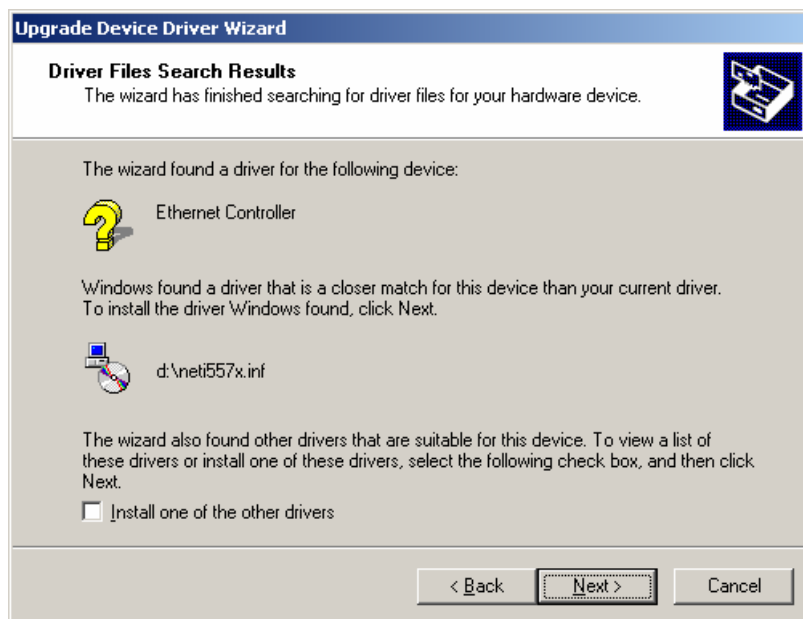

Figure 2-31 [Driver Files Search Results] dialog box
- 8) The system searches the CD for the driver of the network adapter. The [Driver Files Search Results] dialog box is displayed with the path to the driver, for example, d:\neti557x.inf. Click <Next> to continue. See Figure 2-31.